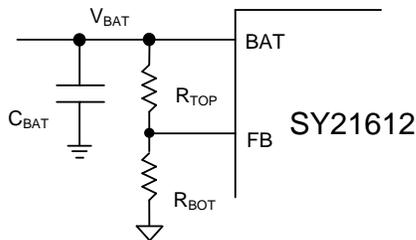

Figure3. Schematic of V_{BAT} under Sink Mode
Under sink mode, the VBUS pin is connected to the power input, the BAT pin is the power output and the FB pin is the feedback input. The output voltage V_{BAT} is programmed by external voltage divider (see Fig. 3) with the 1V internal voltage reference as given in equation (1).